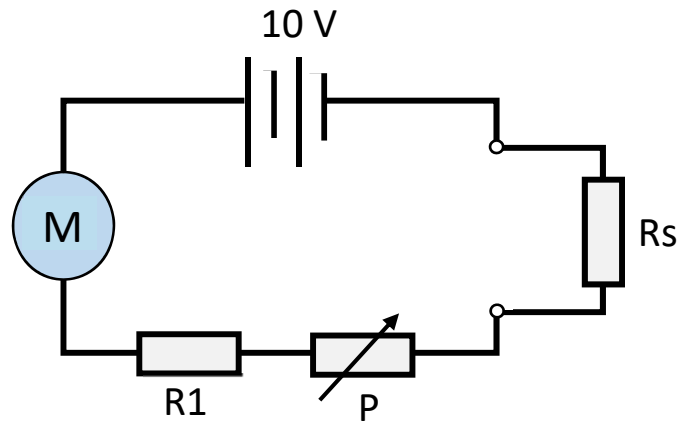

Figure 3
Instead of using two meters at the same time to make resistance measurements, it is possible to devise methods which require the use of only a single meter. The configuration for one such method, known as the series ohmmeter (because the resistance to be measured is in series with the meter movement) is shown in Figure 3.
- (a) Connect the circuit shown in Figure 3, using 150k for R1 and trimpot for P, a resistor for R_s, (the "resistance to be measured", different values will be used for measurements), and the analogue multimeter for M.
5. Comment on the accuracy or any other issues may be encountered if the voltage in Figure 3 and 4 are reduced to 1 V with resistance values of R_1+P being reduced accordingly to achieve the full scale current of $50\ \mu\text{A}$.